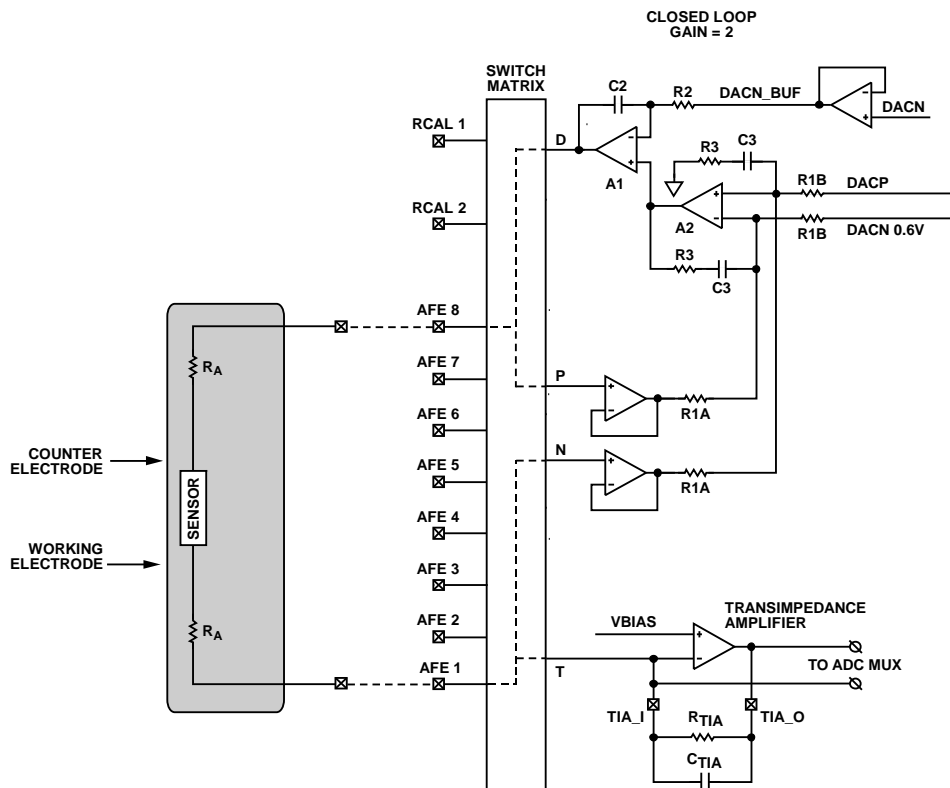
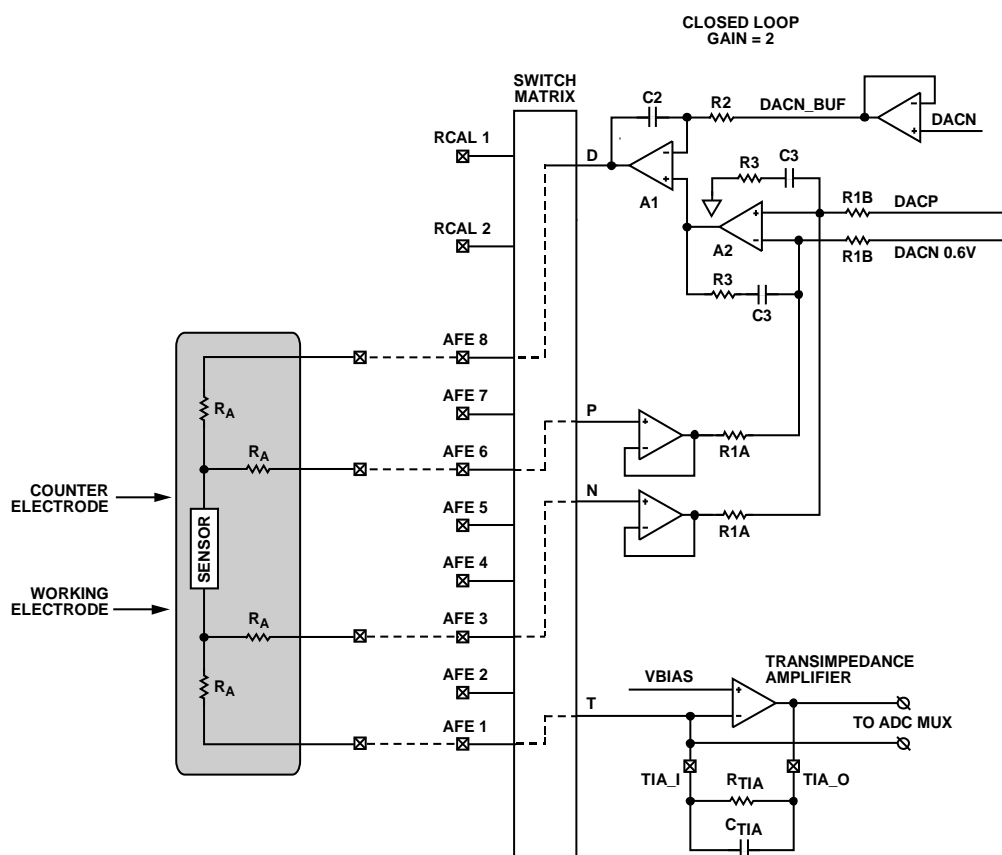

Figure 86. AFE Excitation Loop Block Diagram, 2-Wire Configuration
Figure 87. AFE Excitation Loop Block Diagram, 4-Wire Configuration
In this section, an overview of the analog front-end excitation loop is outlined. See Figure 86 and Figure 87 for block diagrams of the loop. The AFE excitation loop consists of an excitation buffer amplifier loop, transimpedance amplifier (TIA), and switch matrix. The switch matrix is a programmable interface with an external sensor configuration and a calibration resistor. Typically, a calibration resistor has two functions:
In Figure 86, a sensor is hooked up in a 2-wire sensor configuration. For 2-wire or 3-wire sensor configurations, the P and N sense lines can be tied internally through the switch matrix.
- This signal is then gained by two in the excitation loop stage, Amplifier A1, in Figure 86.
Consider a 4-wire configuration, as shown in Figure 87. The sensor is being sensed differentially by the P and N nodes. Both P and N are fed back into the feedback loop of the excitation stage through an instrumentation amplifier using AFE 6 (Switch P6 closed) and AFE 3 (Switch N3 closed). The excitation buffer forces the output voltage on D to be equal to the differential voltage across the sensor, $P - N$. Both P and N switches are very high input impedance, which guarantees no current flows in sense lines. The common mode of the system is still set by the positive terminal of the TIA, VBIAS of 1.1 V by default.